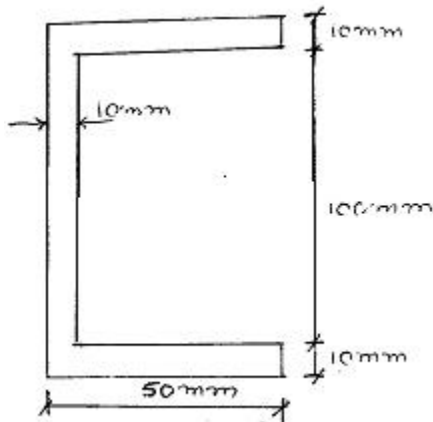

Figure 7
- 17 Locate the shear center for the cross section shown in figure 7. (10)